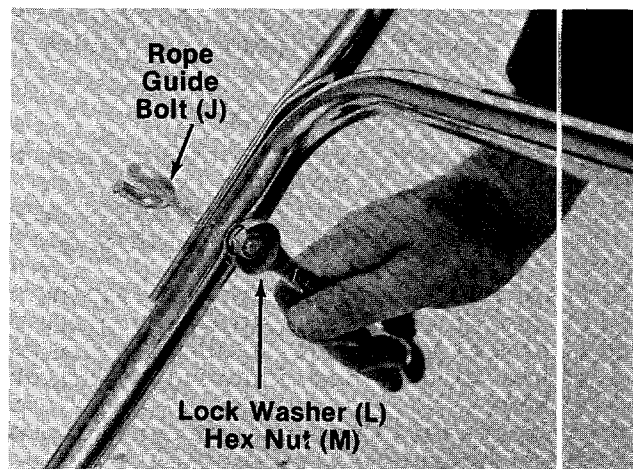

FIGURE 3.
4. Place the upper handle in position over the lower handle. The throttle control must be on the right hand side of the handle. Secure the right hand side of upper handle using the rope guide bolt (J), lock washer (L) and hex nut (M) as shown in figure 3.